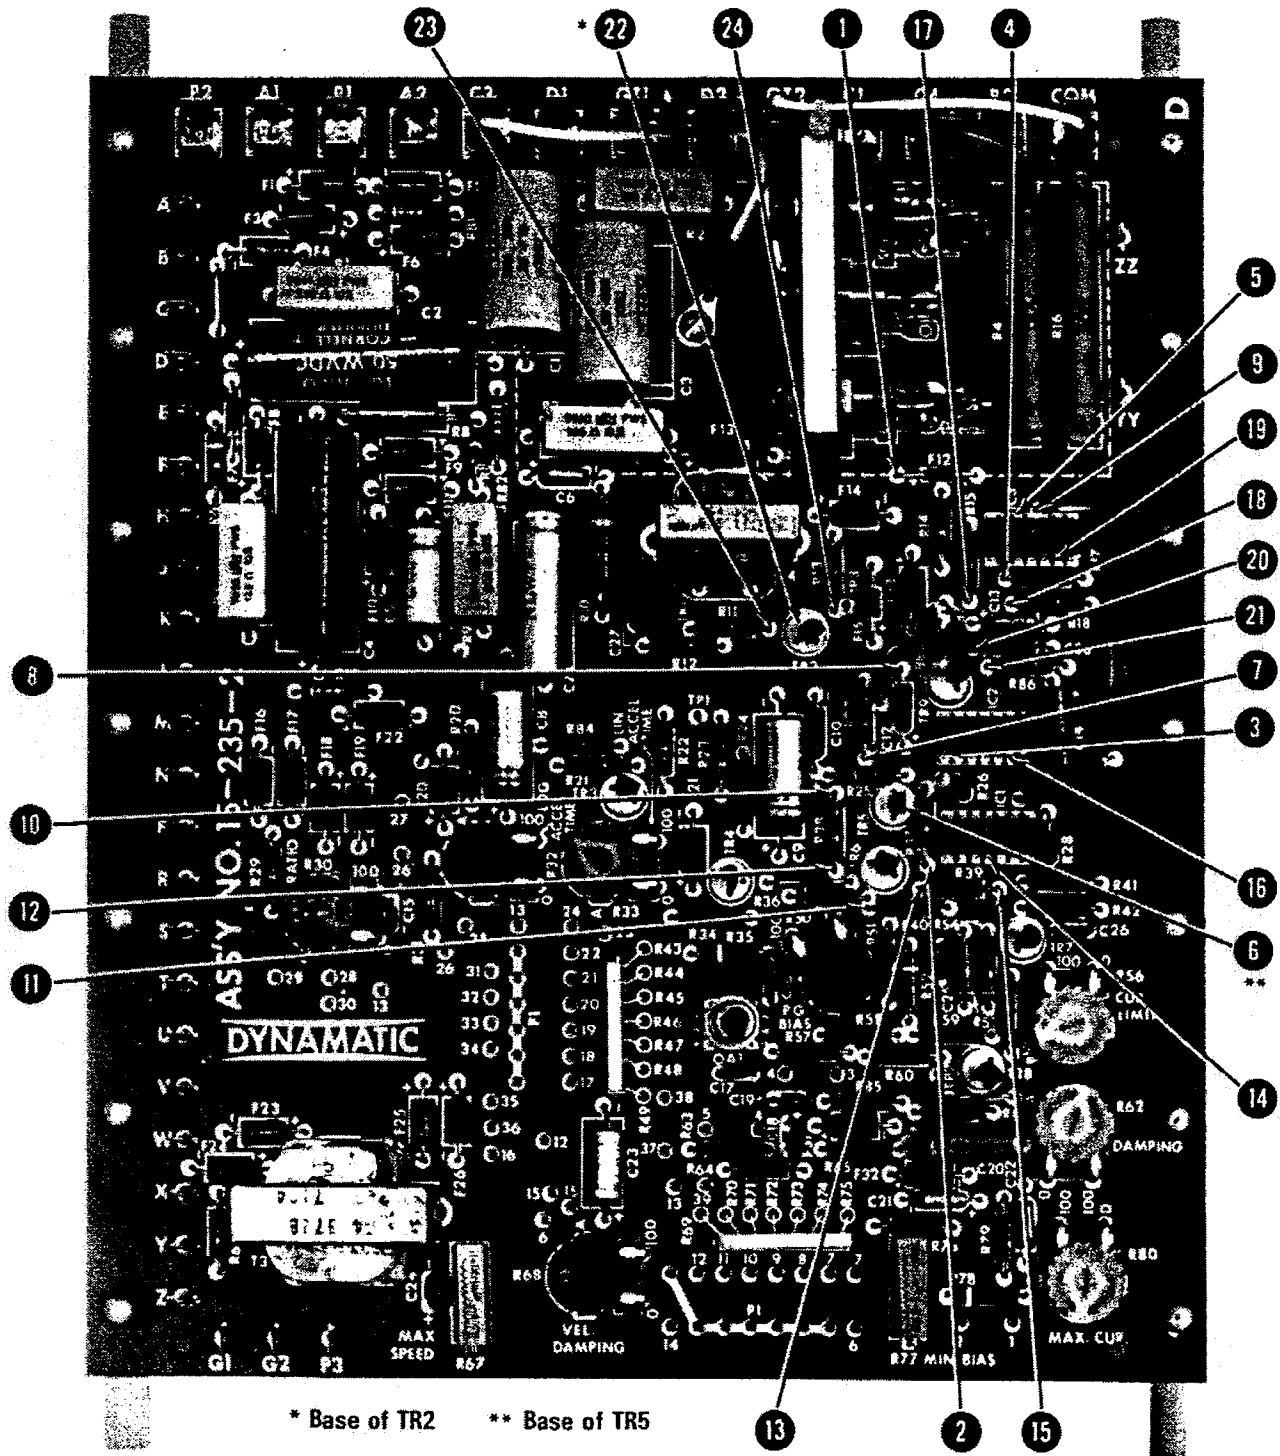

Figure 4
1. To determine if the modification will eliminate the runaway condition from the control and jumper out resistor R27 (located at point 7 in the Figure 4)with a small clip jumper. Apply power and determine if runaway condition has been eliminated.
2. If the runaway condition is eliminated by Step 1, remove the power from the control and then remove the clip jumper in Step 1. Remove capacitor C12 (located at point 8 in the Figure 4) from PCB by clipping with wire cutters or unsoldering. This will complete the modification.